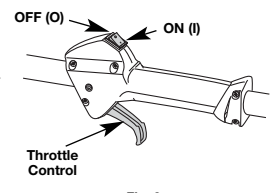

Fig. 8
NOTE: There is no need to turn the unit on. The On/Off Stop Control is in the ON (I) position at all times (Fig. 8).
2. Press and hold the On/Off Stop Control switch in the OFF (O) position until the unit comes to a complete stop (Fig. 8).